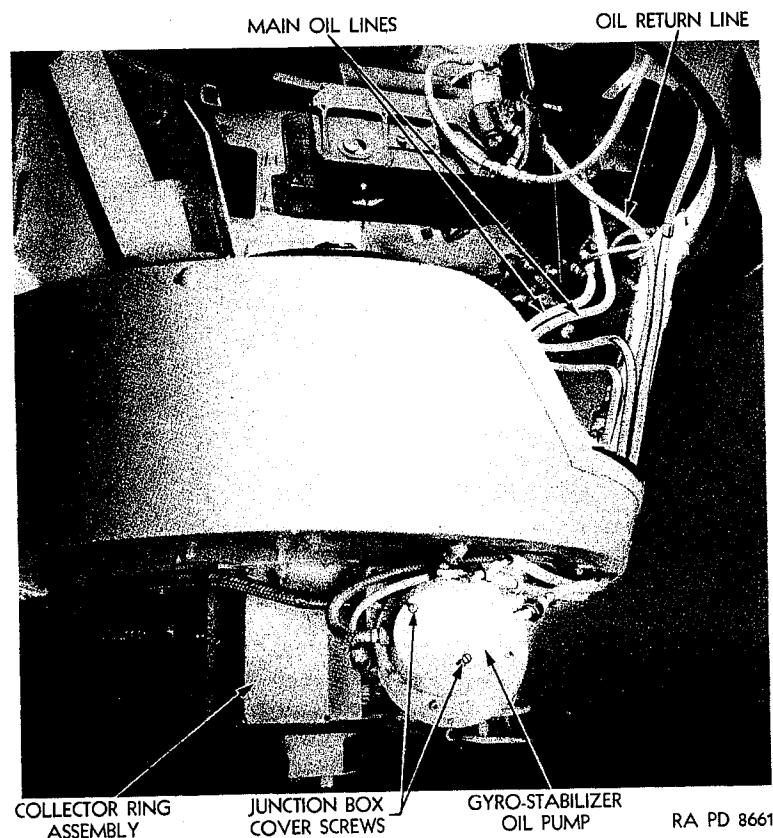

Figure 74—Oil Pump and Connections, Gyro-Stabilizer
mechanism are fastened to the under side of the basket floor (See Fig. 74).
b. The electric motor which supplies the power for the oil pump is mounted on the under side of the turret basket. This motor supplies the power both for the hydraulic turret traverse mechanism and for the gyro-stabilizer. Figure 74 shows the location of the gyro-stabilizer oil pump, which is mounted at one end of the electric motor.
- b. Disconnect the flare nut on the oil return line in the piston, Figure 74. Loosen, but do not remove, the flare nuts at the upper and lower main oil line connections of the cylinder. This will permit venting the air from the oil lines and the cylinder.
- (1) Throw the master switch to the "off" position, disconnecting the power supply.
- (2) Loosen two screws and remove cover from junction box on outer end of oil pump, Figure 74.
- (3) Disconnect the three wires, green, yellow and white from the terminals inside the junction box.
- (4) Disconnect and plug the four oil lines leading to the oil pump.
- (5) Remove the four Allen head screws around the oil pump mounting bracket. These are the screws that are not connected by the wire lock.
- (6) Tap the pump mounting flange with a light hammer while pulling the oil pump from the electric motor.
(1) Throw master switch to "off" position disconnecting power supply to gyro-stabilizer.
(2) Disconnect and plug the oil lines leading to the piston and cylinder assembly. (Figure 74).